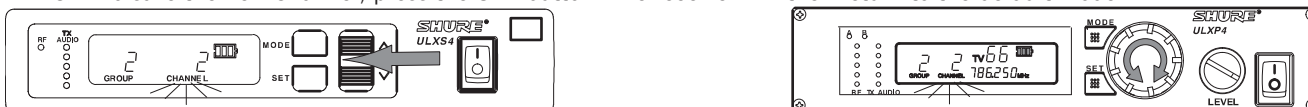

FIGURE 15
- Press the  buttons (ULXS4) or rotate the control knob (ULXP4). The new Channel number will appear on the display, as shown in Figure 15.